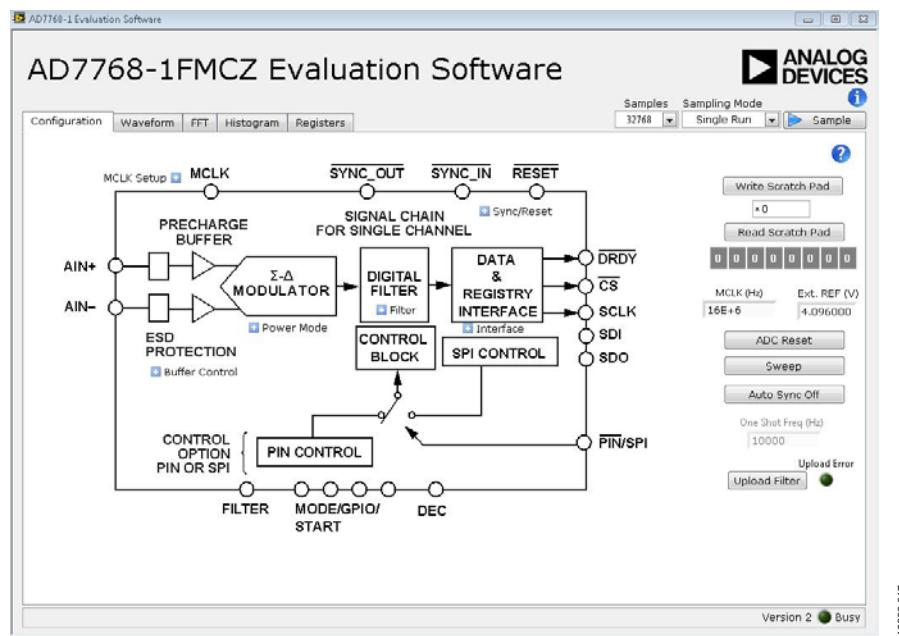

Figure 17. Configuration Tab
The **Configuration** tab is the tab displayed by default when the software first opens (see Figure 17). An overview of the AD7768-1 block diagram is shown, along with buttons that open pop up menus for quick configuration of the device.
5. Set the MCLK frequency on the **Configuration** tab (see Figure 17). The output data rate (ODR) is set using a combination of the AD7768-1 MCLK and decimation rate. In PIN control mode, the registers are not used to configure the part. The register map settings of the EV-AD7768-1FMCZ software are no longer automatically updated to reflect the settings of the device.